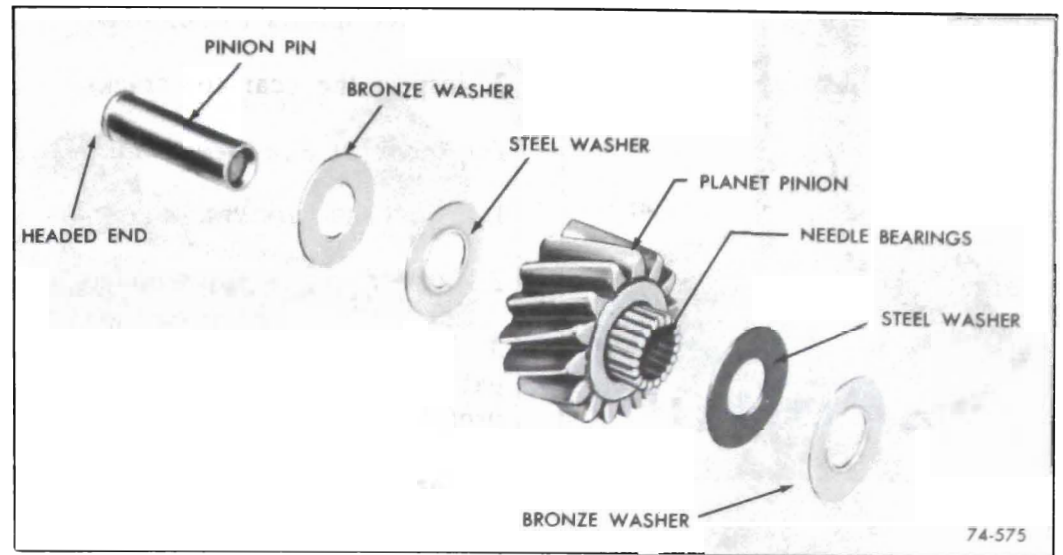

Figure 76-575
6. Install eighteen (18) needle bearings into each pinion, using petroleum jelly to hold the bearings in place. Use a pinion pin as a guide. See Figure 76-575.